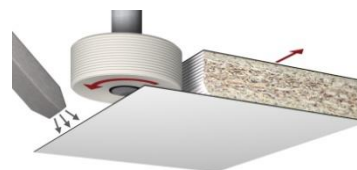

Figure 15
STEP 3: In the second section the special PVAc adhesive is applied evenly to the core board and the laminate flag using a glue roller and/or spray nozzles. To ensure good adhesion both now and in the future, it is extremely important that the glue is applied evenly to both surfaces (see Figure 15).